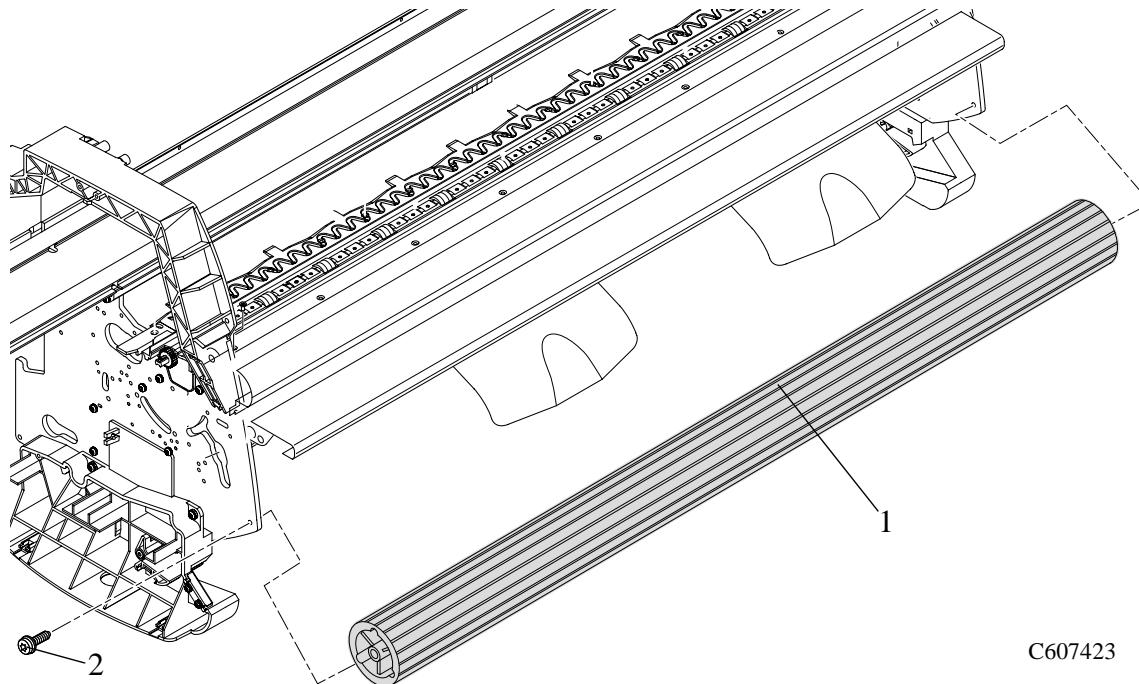
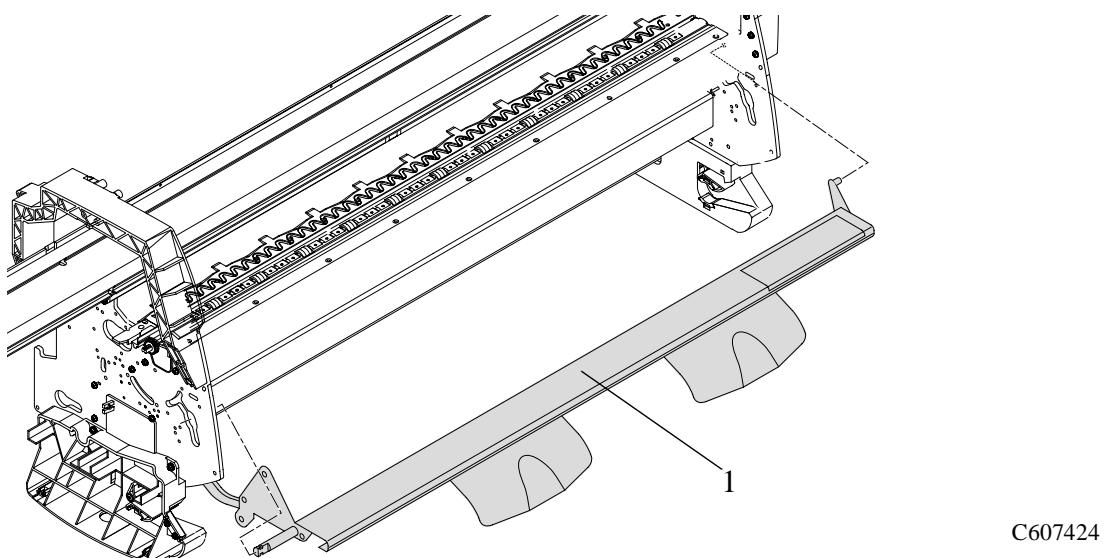

Figure 69: Entry Roller
Figure 71: Paper Entry Assembly
Refer to Figure 69 to Figure 71.
2. Remove the T-15 screws (item 2) securing the entry roller (item 1) to the left hand chassis (refer to Figure 69). Pull out the left side of the entry roller first and then remove completely.
For steps 4 and 5, refer to Figure 71.